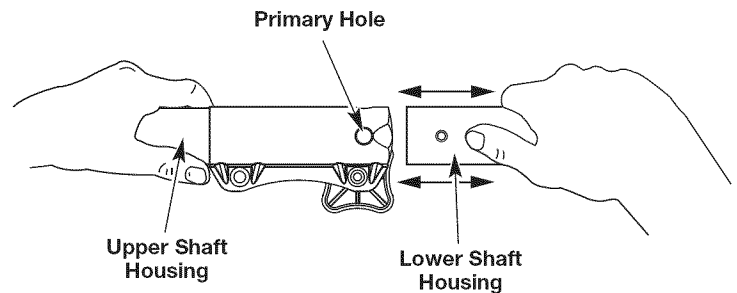

Fig. 4
2. While firmly holding the attachment, push it straight into the coupler until the release button snaps firmly into the primary hole (Fig. 4).
3. While firmly holding the upper shaft housing, pull the attachment straight out of the coupler (Fig. 4).